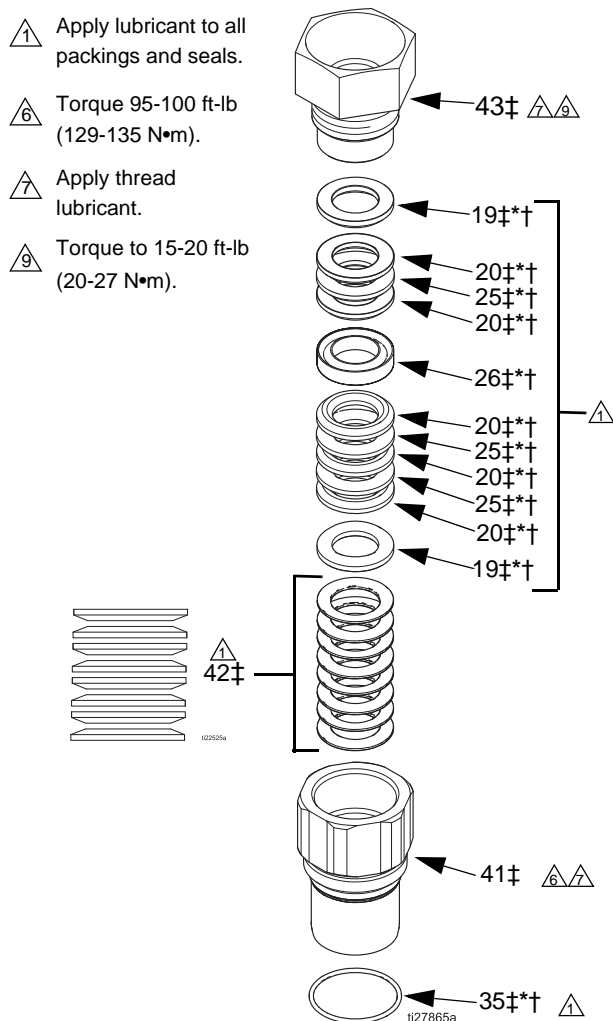

FIG. 1. Throat Packing Detail
2. See FIG. 1, page 6. Lubricate the throat packings and glands. Install one male gland (19‡*†), then five v-packings with the *lips facing down*: one ZX (20‡*†), one leather (25‡*†), then ZX, leather, ZX. Install the female gland (26‡*†). Install three v-packings with the *lips facing up*: ZX, leather, ZX. Install the other male gland (19‡*†). Lubricate and install the wet cup (43‡) finger-tight.
3. Lubricate and install the o-ring (35*) onto the throat cartridge (41). Lubricate the threads and install the assembled throat cartridge (41). Torque to 95-100 ft-lb (129-136 N•m).
4. Install the fluid outlet housing (16) over the piston rod (17) and onto the fluid tubes (3) and cylinder (1). It may not seat well at first. Apply thread lubricant and install the bolts (13) and lock washers (14) from the fluid inlet housing (15). Tighten two screws (A, see figure) into the fluid outlet housing (16). They will draw the housings firmly onto the tubes and cylinders. When fully seated, tighten the third screw (B, see figure). Torque all three screws to 35-40 ft-lb (47-54 N•m).